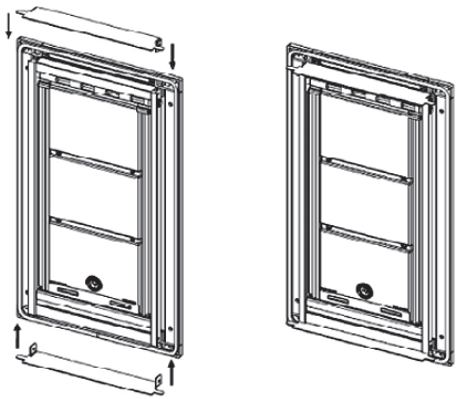

Figure 6: Align the top and bottom pieces and screw into place
10. Place the top piece on, with the bent tabs down and align the top piece so the holes in the tabs lines up with the screw holes in the flap frame and screw in as shown in Figure 6. Repeat for the bottom piece.